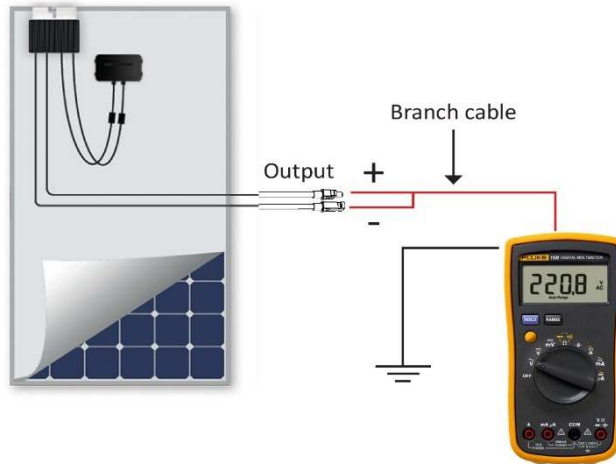

Figure 3: Connecting the insulation tester to the power optimizer and module
- 5** Test the *power optimizers’ and modules’* resistance using the insulation tester (see Figure 3):